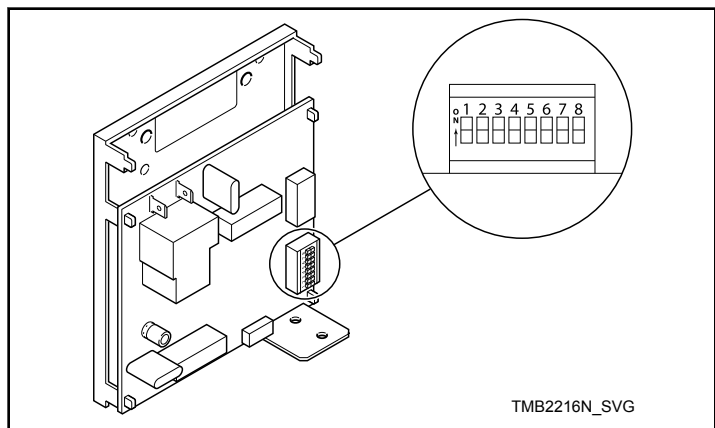

Figure 28
2. Write down machine control dip switch settings, then set them all to the off position. Refer to *Figure 28*.